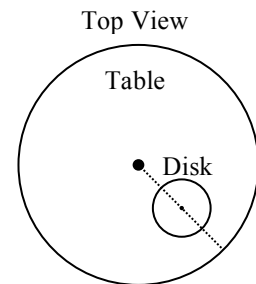

Figure 4.4
6. Measure the period of one oscillation T_{Table} of the *table alone* five (5) times. Record the data in *Table 4.3*.
7. After making sure the brass ring is mounted down with screws and centered on the table's axis of rotation, measure the period of one oscillation $T_{Table+Ring}$ of the *table/ring combination* five (5) times. Record the data in *Table 4.3*.
9. To measure the period of one oscillation for the table/disk combination, place and screw down the solid disk at one of five different equally spaced positions along the table radius at a distance d from the table's axis of rotation (see *Figure 4.4*). One of the positions must be the center ($d = 0.000\text{m}$). Recommended positions are 0.000m, 0.015m, 0.030m, 0.045m and 0.060m.